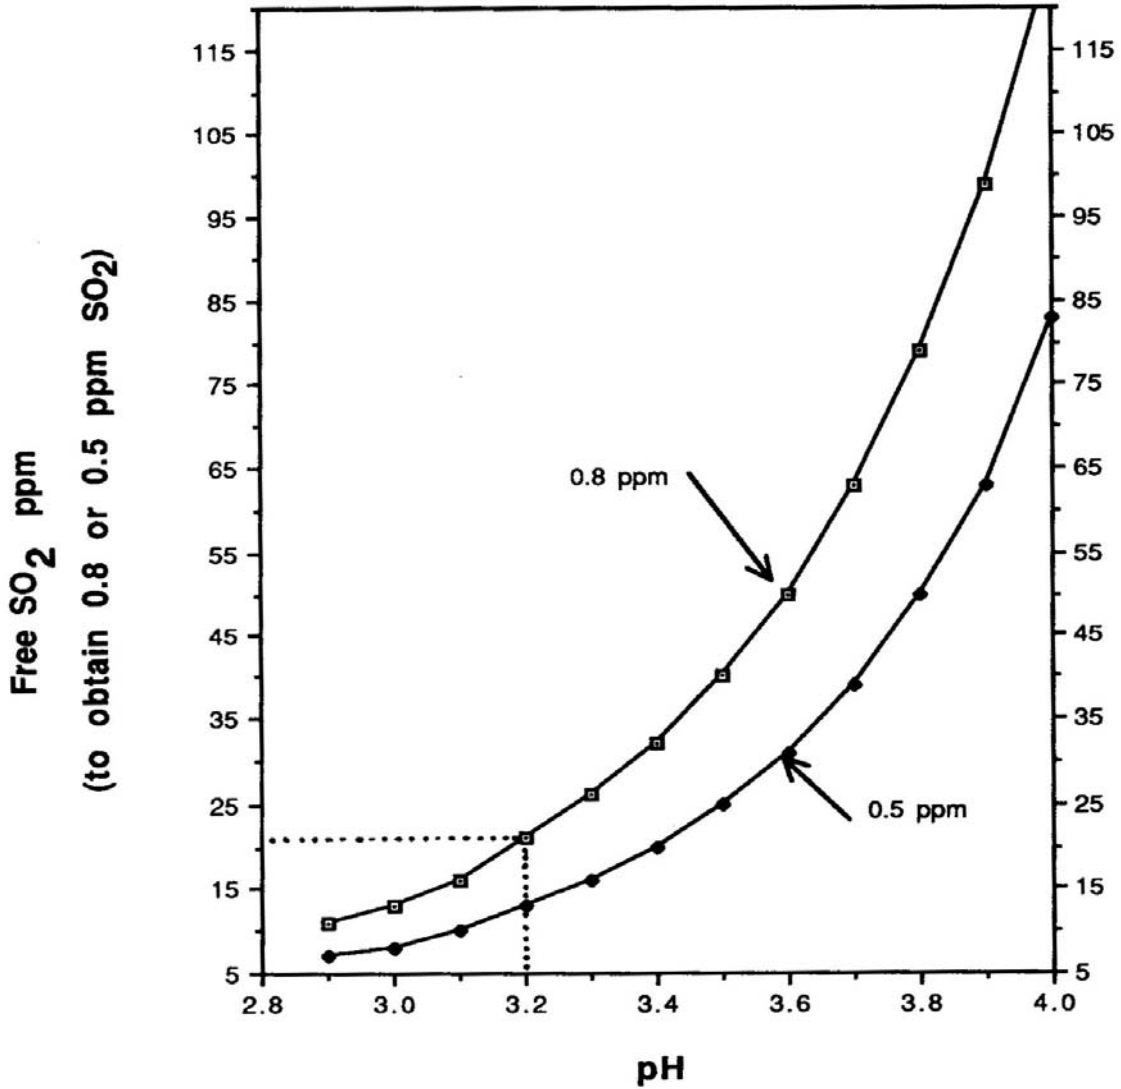

Fig. 1. The variation in Free SO₂ (FS) with pH for 0.5 and 0.8 molecular SO₂.
1. **If pH is < 3.55**, add sufficient to achieve 0.5mg/L molecular SO₂ (see Fig. 1) plus an estimate to correct for bound SO₂ (see Table 1). Follow procedure given under section **Vb** and in step 2, assume free SO₂ (FS) = 0.
4. If pH is < 3.55, decide on target molecular SO₂ (0.5 or 0.8mg/L) and estimate corresponding free SO₂ at pH of wine (see Fig. 1)